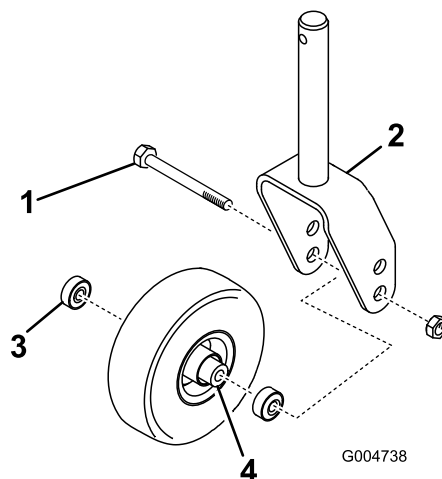

Figure 25
1. Remove the locknut from the bolt holding the castor wheel assembly between the castor fork (Figure 25). Grasp the castor wheel and slide the bolt out of the fork or pivot arm.
2. Remove the bearing from the wheel hub and allow the bearing spacer to fall out (Figure 25). Remove the bearing from the opposite side of the wheel hub.